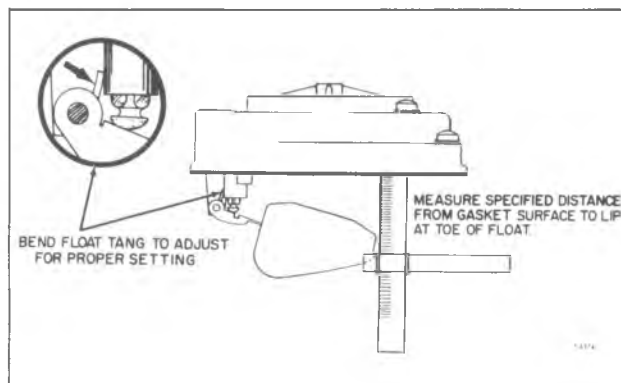

Figure 24—Float Drop Adjustment (Model 2G)
7. With air horn right side up so that float can hang free, measure distance from lip at toe of float to air horn gasket. Adjust float to specification (float drop) by bending tang (fig. 24).